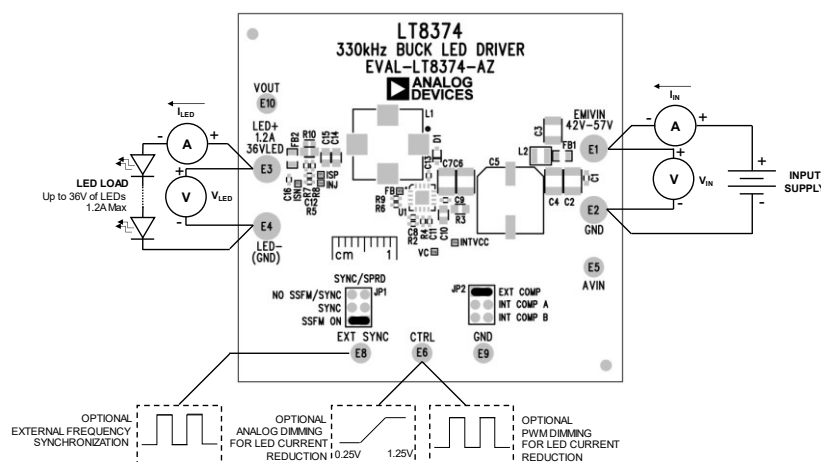

Figure 1. EVAL-LT8374-AZ Board Connections
Demonstration circuit EVAL-LT8374-AZ is easy to set up to evaluate the performance of the LT8374. See Figure 1 for proper measurement equipment setup and use the following procedure:
1. With power off, connect an input power supply between the EMIVIN and GND turrets. Connect a string of LEDs that will run with forward voltage less than or equal to 36V at 1.2A between the LED+ and LED- turrets on the PCB as shown in Figure 1.